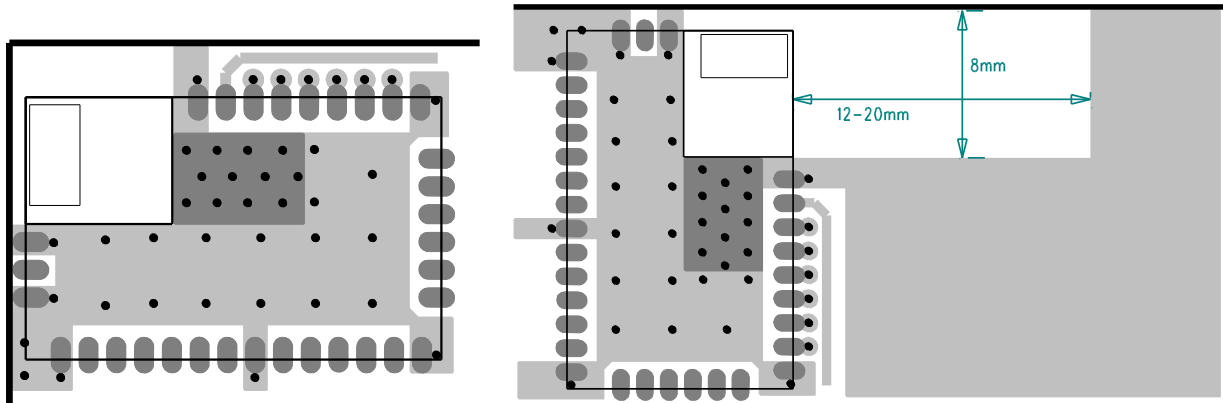

Figure 13: Recommended layouts, on board corner and on board edge
See figure 13: recommended layout for the suggested module layout. The impedance matching of the antenna is designed for a layout similar to the module evaluation board. For an optimal performance of the antenna the layout should strictly follow the layout example shown in figure 8 and the thickness of FR4 should be between 1 and 2 mm, preferably 1.6mm.
- Do not place a ground plane underneath the antenna. The grounding areas under the module should be designed as shown in Figure 13: Recommended layout.